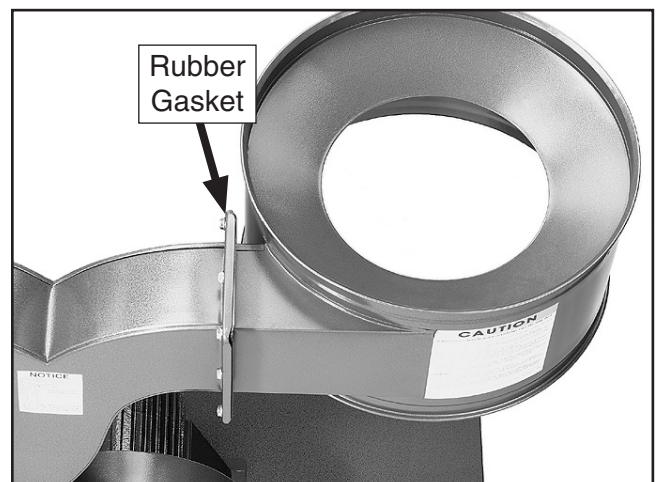

Figure 6. Collector secured to outlet.
4. Insert one of the rubber gaskets between the outlet flange and the collector flange. Secure with eight (8) $\frac{5}{16}$ "-18 x $\frac{1}{2}$ " bolts provided. Repeat the procedure for the other collector on the opposite side (see **Figure 6**).